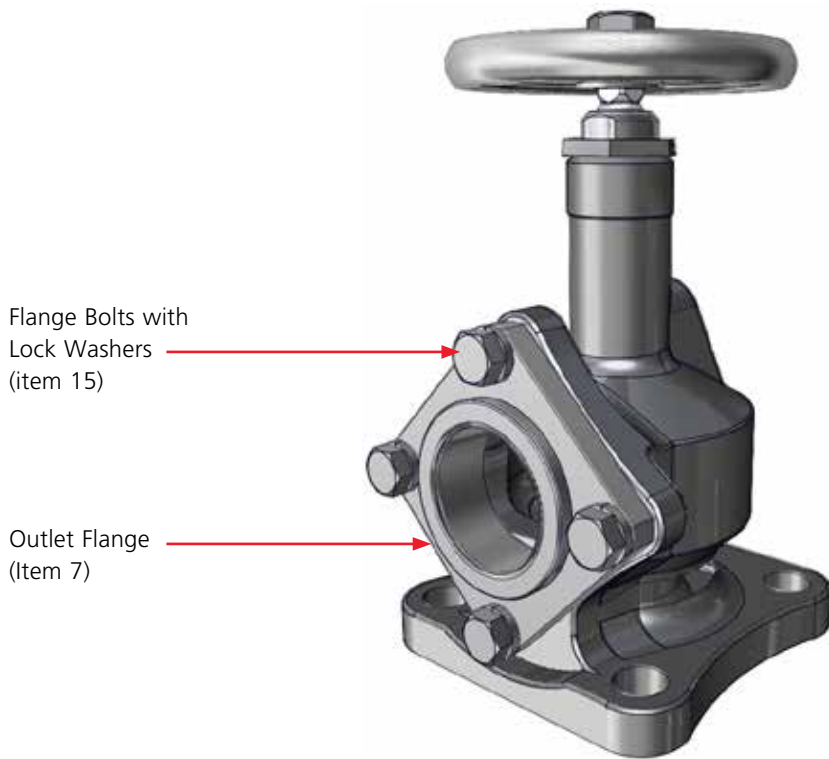

Figure 7-8 Reassembly steps 7.2.16 through 7.2.21
- 7.2.16** Install the outlet O-ring (item 13) if on A-720/721/724 onto the outlet flange (item 7). Install the outlet gasket (item 13) if on A-721-B onto the outlet flange (item 7). Push this assembly into the side port of the body; see Figure 7-8.
- 7.2.17** Screw in the flange bolts with lock washers (item 15) hand tighten, and then wrench-tighten the bolts using the alternate tightening pattern. Do not exceed 45 ft-lb. Check for uniform spacing between the two flange faces. Correct by loosening and retightening; see Figure 7-8.